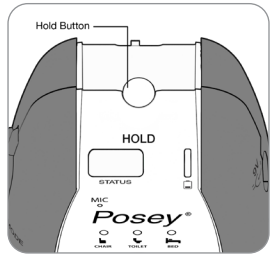

Fig. 10
1. Press **HOLD** button on the top of fall monitor once to initiate a 30 second hold or continuously press the HOLD button for 3 seconds to initiate an extended hold of 5 minutes. (Fig. 10) The **STATUS LED** will begin flashing RED, indicating the fall monitor is in HOLD mode, and an audio cue will indicate that either a 30 second or 5 minute hold has been activated.